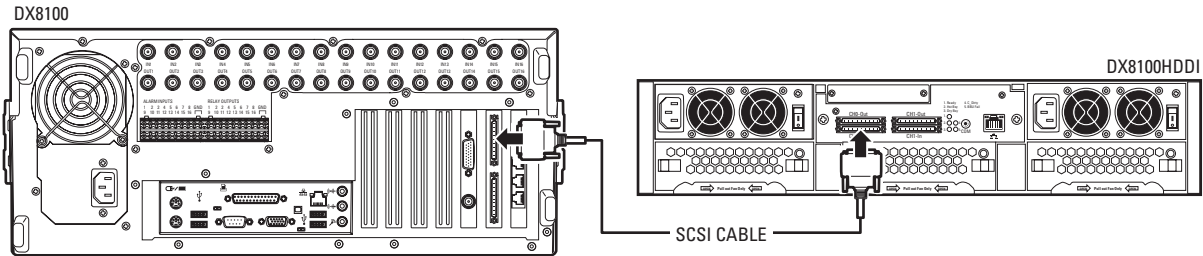

Figure 13. DX8100 to DX8100HDDI SCSI Connection
Refer to Figure 13 to perform the following steps:
1. Turn on both DX8100HDDI power supplies (refer to Figure 13) and verify that "Ready" is displayed on the LCD.